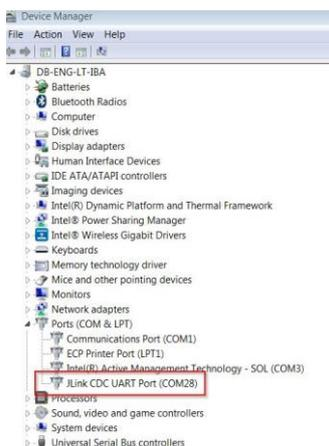

Figure 8: Device Manager Port
The COM port number can be found in the Windows Device Manager (Control Panel > Device Manager > Ports (COM & LPT)) as shown in **Figure 8**.
2. Use the Windows Device Manager to verify that the host discovered the **COM28** serial port in this case. See **Figure 8**.
9. Make sure you have a UART connection between your PC and the motherboard, as shown in **Figure 8**. Check the COM number on your PC.